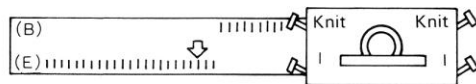

Fig.63
- Bring forward from position (B) into position (E) the required number of needles farthest from the carriage. (Fig.63) Knit one row.*